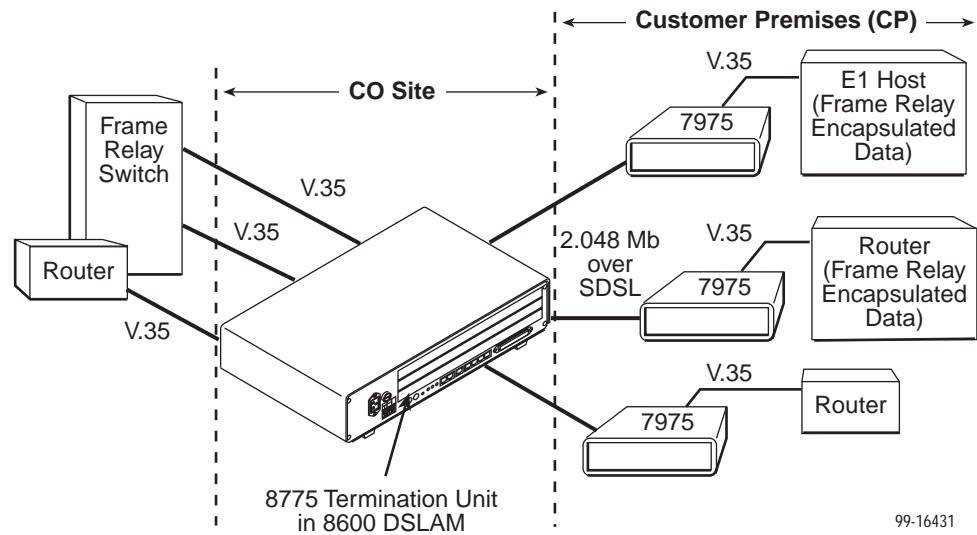

Figure 1-1. Sample Configuration
Figure 1-1 shows a network application using a Hotwire 8775 M/SDSL Termination Unit for access concentration in a central office (CO). A frame relay switch and a router are connected, through the termination unit, to partner units supporting a host or router, and frame relay encapsulated or unframed data.